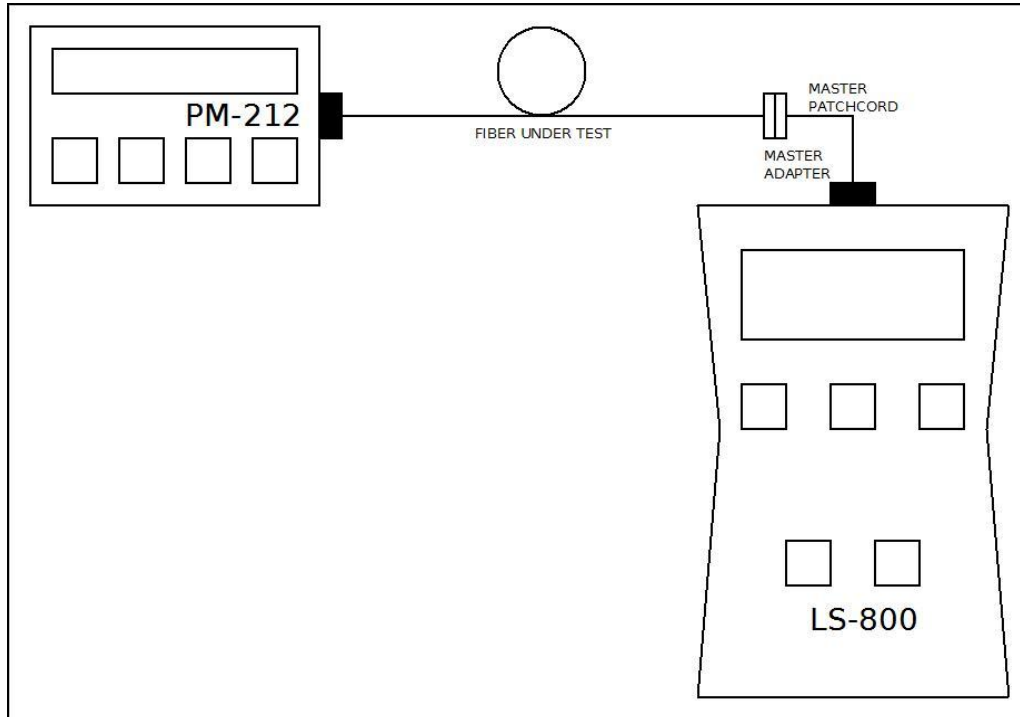

Figure 8: Measurement Loss by method 7
3. Connect the trace to be measured between the power meter port and the master cord that is attached to the light source. An extra master adaptor is required (figure 8).